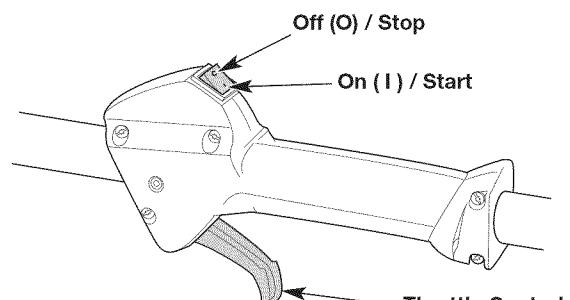

Fig. 8
- NOTE:** There is no need to turn the unit on. The On/Off switch is in the ON (I) position at all times (Fig. 8).
6. Squeeze the throttle control (Fig. 8) and pull the starter rope with a controlled and steady motion **5 times** (Fig. 10).
2. Press and hold the On/Off switch in the OFF (O) position until the engine comes to a complete stop (Fig. 8).
7. Squeeze and hold the throttle control (Fig. 8). Run the Speed Start™ accessory for 2 seconds.
**IF THE ENGINE IS HOT...** Move the choke lever to **Position 2**, press the primer bulb **10 times**, squeeze the throttle control, and press and hold the electric starter or drill ON (I) button for 2-second intervals until the unit starts. Run the unit for **2-5** minutes. The unit may be used during this time. Then move the choke lever to **Position 3**.